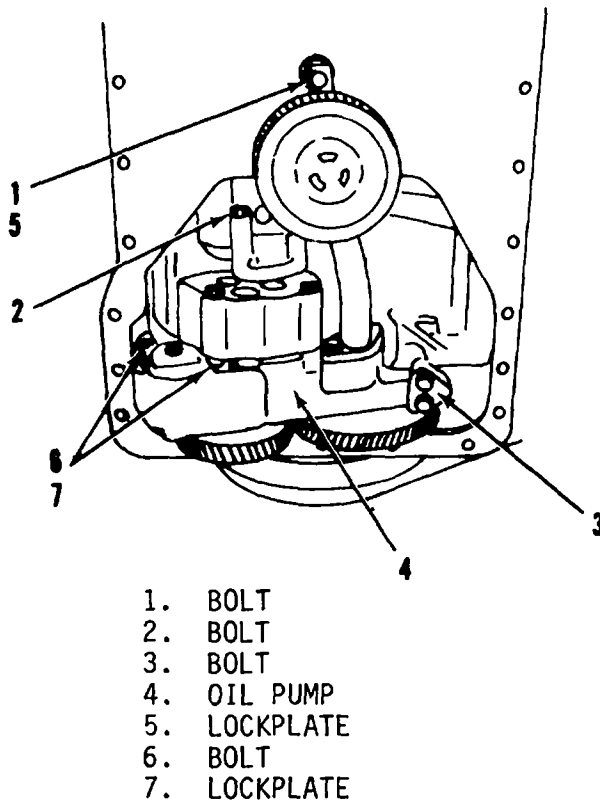

Figure 11-36. Oil Pump, Removal and Installation
d. Remove bolt and lockplate (1 and 5, figure 11-36) which secures the suction bell to the oil pan plate.
e. Remove bolts (2) from scavenge pump tube.
(1) Mount scavenge pump tube (13) onto oil pan plate (14) using clip (12), lockplate (11), and bolt (10).
(2) Position new gasket (9) on plate (14).
(3) Install oil pan plate (14) and gasket (9) using bolts (7) and lockwashers (8).
(4) Install left-hand plate (5) and right-hand plate (6) using bolts (1 and 3) and washers (2 and 4).
i. Mount oil pump (4, figure 11-36) using bolts (3 and 6) and lockplate (7).
j. Install bolts (2) for scavenge pump tube.
k. Install bolt (1) and lockplate (5) which secures suction bell to oil pan plate.